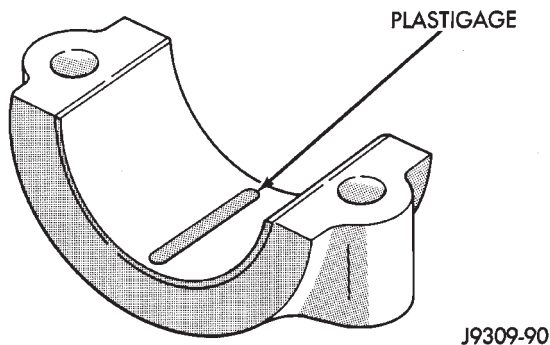
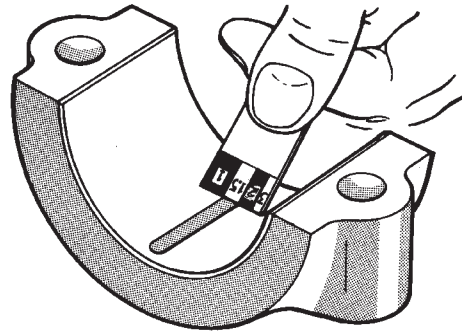

Fig. 3 Placement of Plastigage in Bearing Shell
Fig. 4 Clearance Measurement
(1) Place a piece of Plastigage across the entire width of the bearing cap shell (Fig. 3). Position the Plastigage approximately 6.35 mm (1/4 inch) off center and away from the oil holes. In addition, suspect areas can be checked by placing the Plastigage in that area. Tighten the bearing cap bolts of the bearing being checked to the proper specification. **DO NOT rotate the crankshaft or the Plastigage may be smeared, giving inaccurate results.**
(2) Remove the bearing cap and compare the width of the flattened Plastigage with the scale provided on the package (Fig. 4). Plastigage generally comes in 2 scales (one scale is in inches and the other is a metric scale). Locate the band closest to the same width. This band shows the amount of clearance. Differences in readings between the ends indicate the amount of taper present. Record all readings taken (refer to Engine Specifications).
(3) Plastigage is available in a variety of clearance ranges. The 0.025-0.076 mm (0.001-0.003 inch) range is usually the most appropriate for checking engine bearing clearances.
(1) Remove oil film from surface to be checked. Plastigage is soluble in oil.
(2) Place a piece of Plastigage across the entire width of the bearing cap shell (Fig. 3). Position the Plastigage approximately 6.35 mm (1/4 inch) off center and away from the oil holes. In addition, suspect areas can be checked by placing the Plastigage in the suspect area.
(3) The crankshaft must be turned until the connecting rod to be checked starts moving toward the top of the engine. Only then should the rod cap with Plastigage in place be assembled. Tighten the rod cap nut to the specified torque. **DO NOT rotate the crankshaft or the Plastigage may be smeared, giving inaccurate results.**
(4) Remove the bearing cap and compare the width of the flattened Plastigage with the scale provided on the package (Fig. 4). Plastigage generally comes in 2 scales (one scale is in inches and the other is a metric scale). Locate the band closest to the same width. This band shows the amount of clearance. Differences in readings between the ends indicate the amount of taper present. Record all readings taken (refer to Engine Specifications).
(5) Plastigage is available in a variety of clearance ranges. The 0.025-0.076 mm (0.001-0.003 inch) range is usually the most appropriate for checking engine bearing clearances.